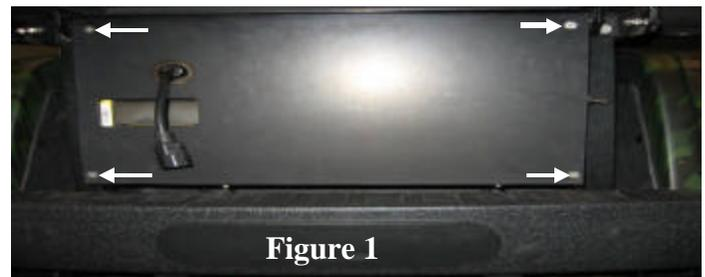

Figure 1
1. Remove the 4 Phillips screws holding the back panel on the cart. Remove panel. See Figure 1.